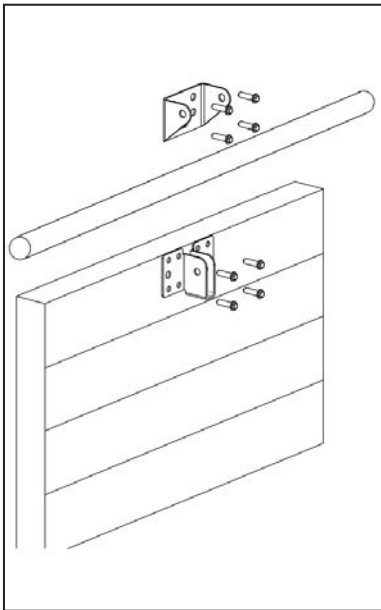

Fig. 1
5. There should be a minimum gap of 30 mm between the bottom of the chain drive rail and the top of the garage door at its closest point (refer to Fig. 1).
MOUNT WALL BRACKET AND DOOR BRACKET – Fig. 1